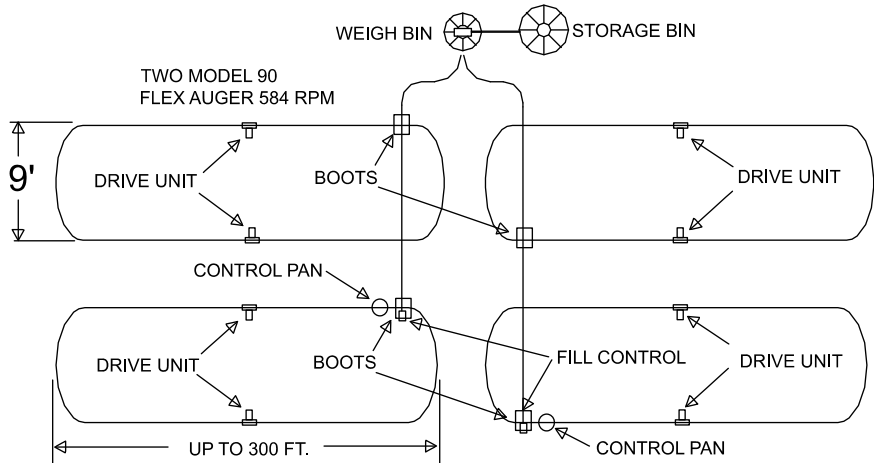

Figure 1.Pullet Feeder Planning
Figure 1. shows a house with two feeder loops. The line lengths specified for determining power unit placement refer to the distance between the elbows. However, the total system length = line length x 2, plus the elbows (including the tube between the elbows)
For line lengths up to 300' [X m], two (2) power units are recommended. The power units should be evenly spaced opposite each other. The power units should be placed in positions "B" and "E", see figure 1.
For line lengths from 301' to 450' [X m], three (3) power units are recommended. To determine the proper placement of the power units, add the total length of the system, including 3' [1 m] for each 90 degree end section and divide by three (3). This will give an approximate distance between power units, round up or down to the nearest suspension drop line. These power units should be staggered (two on one side, one on the other side). The power units should be placed in positions "A", "C", and "E", **see figure 1.**
For line lengths from 451' to 600' [X m], four (4) power units are recommended. To determine the proper placement of the power units, add the total length of the system, including 10' [3 m] for each 90 degree end section, and divide by four (4). This will give an approximate distance between power units, round up or down to the nearest suspension drop line. The power units should be placed in positions "A", "C", "D", and "F", **see figure 1.**